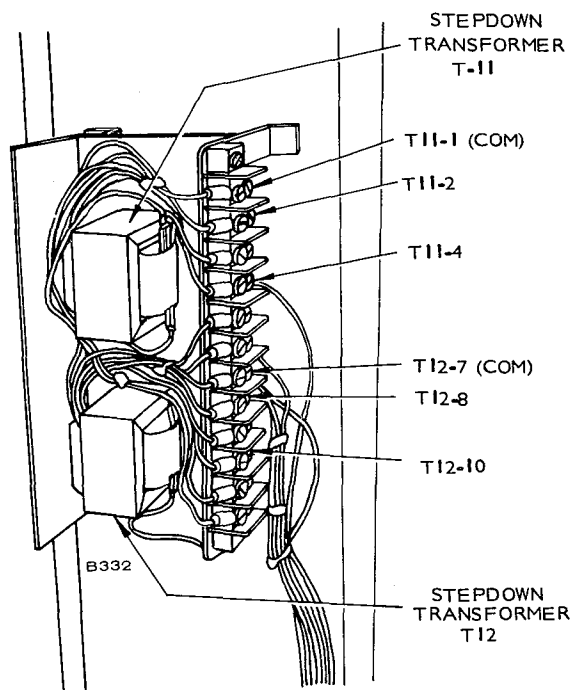

FIGURE 1. STEPDOWN TRANSFORMERS T11 AND T12 ON METER-LAMP PANEL
12. If the meter-lamp panel is three-phase only, remove the panel as described under *Changing Meter-Lamp Panel*. If the meter-lamp panel is a single- or single- and three-phase panel, rewire the connections on transformers T11 and T12 (if equipped). See Figure 1.